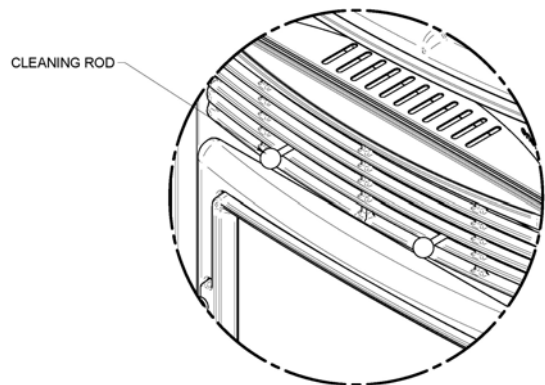

Figure 43
- a. **Heat Exchange Tubes** – Your EUROZONE stove is designed with a built-in heat exchanger tube cleaner. This should be used weekly to remove accumulated ash on the tubes. Slide the cleaning rod back and forth two or three times from front to back (refer to figure 43). When finished, push the cleaning rod back in, behind the louvers.